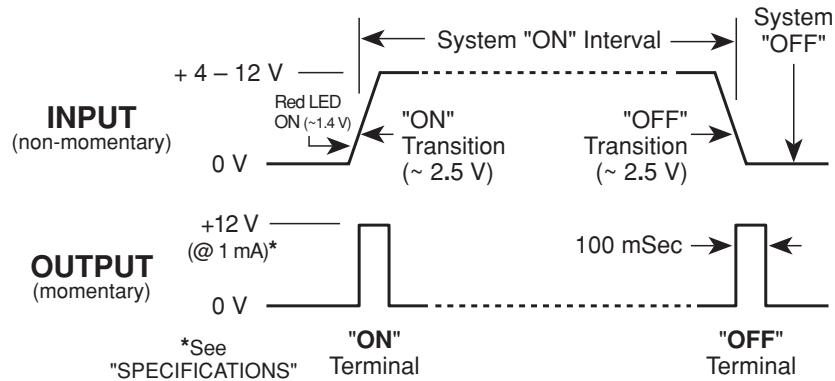

Fig. 6 Operation Timing Diagram
- **ON Terminal:** (see Fig. 6) Goes active High during Input On transition at the IN+ & IN- terminals.
- **OFF Terminal:** (see Fig. 6) Goes active High during Input OFF transition at the IN+ & IN- terminals.
- Similarly, it will generate a short pulse at its **OFF** terminal (+12V, 100 mSec) when the +4 to +12 volts drops to 0 volts (the A/V Receiver is turned off). Refer to **Fig. 6**.